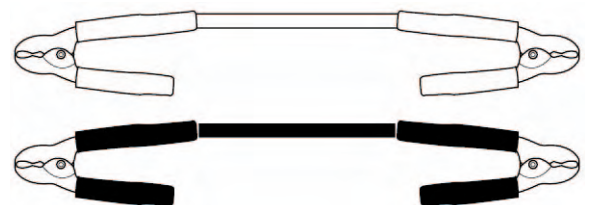

Fig. 3
11. For a typical set of booster cables, install a second clamp on the other end of the cable. Make certain the same color handle grip is used for both clamps on the same length of cable. Use black grips for the negative booster cable. Use red grips for the positive cable. See Figure 3.